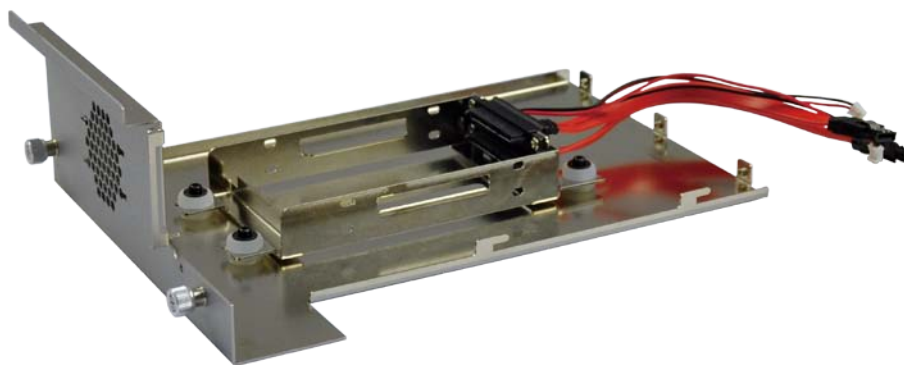

Figure 3-4: Remove the Cover from TANK-860-HM86 Series
Step 2: Unplug the SATA signal and power cables connected to the TANK-860-HM86 Series, and then put the cover on a flat surface (**Figure 3-4**).
- Step 2:** Unplug the SATA signal and power cables connected to the TANK-860-HM86 Series, and then place the cover on a flat surface (**Figure 3-4**).